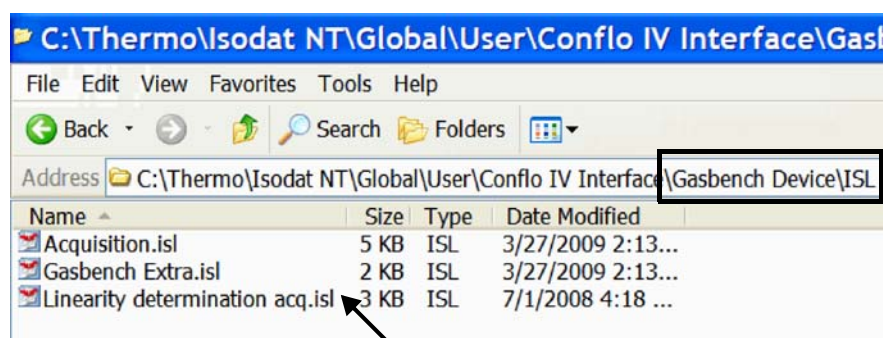

Figure 5-51. Linearity script for the CO₂ linearity test in new folder
2. Copy it to the folder C:\Thermo\Isodat NT\Global\User\Conflo IV Interface\Gasbench Device\ISL. See arrow in Figure 5-51.